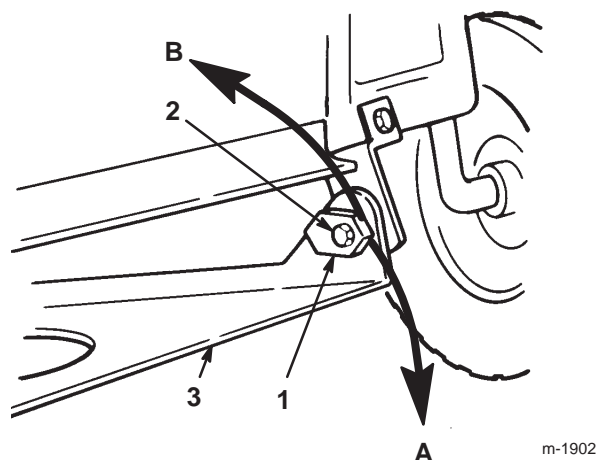

Figure 46
15. Adjust the front-to-rear slope by rotating the special slope adjusting nuts on both sides of the mower pivot mount (Fig. 46).
16. Slowly rotate the left side slope adjusting nut down to raise the front of the mower; rotate the nut up to lower the front of the mower (Fig. 46). Rotate the slope adjusting nut until the front of the mower is 1/4 to 5/8 in. (6 to 16 mm) lower than the rear of the mower.